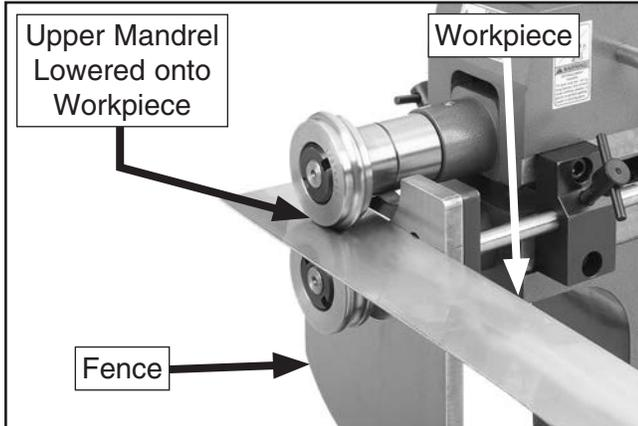

Figure 22. Workpiece placed on lower mandrel in preparation for bead rolling.
4. Place workpiece on lower mandrel with edge against fence, then lower upper mandrel until it just touches workpiece (see **Figure 22**).